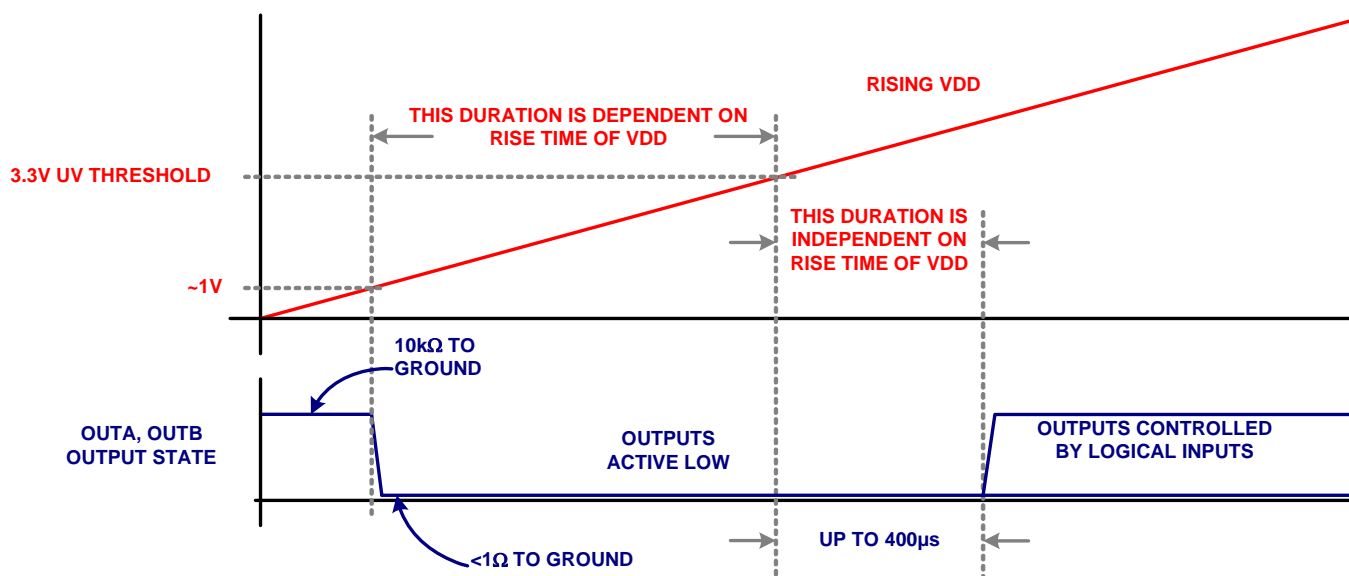

FIGURE 9. START-UP SEQUENCE
- A 400 μs delay further inhibits the release of the output state when the UV positive going threshold is crossed. See Figure 9
The start-up sequence for is designed to prevent unexpected glitches when V_{DD} is being turned on or turned off. When $V_{DD} < \sim 1V$, an internal $10k\Omega$ resistor connected between the output and ground, help to keep the gate voltage close to ground. When $\sim 1V < V_{DD} < UV$, both outputs are driven low while ignoring the logic inputs. This low state has the same current sinking capacity as during normal operation. This insures that the driven FETs are held off even if there is a switching voltage on the drains that can inject charge into the gates via the Miller capacitance. When $V_{DD} > UVLO$, and after a $400\mu s$ delay, the outputs now respond to the logic inputs. See Figure 9 for complete details.